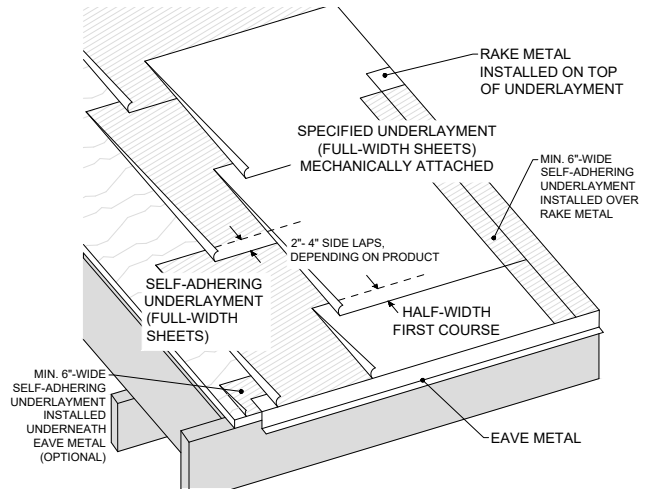

Figure 40 - Initial Layer of Self-Adhering Underlayment Followed by Mechanically-Attached Underlayment
- Initial layer of Secure Start HT and one additional layer of mechanically-attached underlayment (Right Start UDL or Secure Start SG/Plus/Permeable) (See Figure 40)
- Install an initial layer of Arctic Seal or Secure Start HT and one additional layer of mechanically-attached underlayment (Right Start UDL or Secure Start SG/Plus/Permeable). Two (2) layers of Arctic Seal are also acceptable. (See Figure 40)